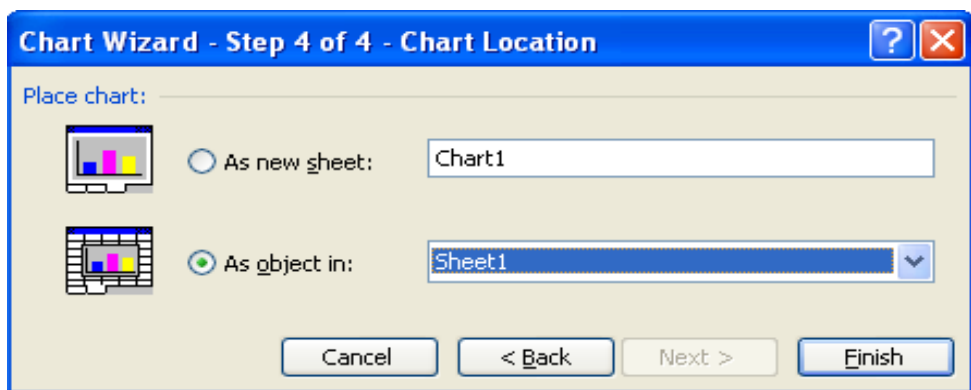

Figure 11
6. The "Chart Location" dialog box: Click "As new sheet" if the chart should be placed on a new worksheet or select "As object in" if the chart should be embedded in an existing sheet and select the worksheet from the dropdown menu. (**Fig. 11**)